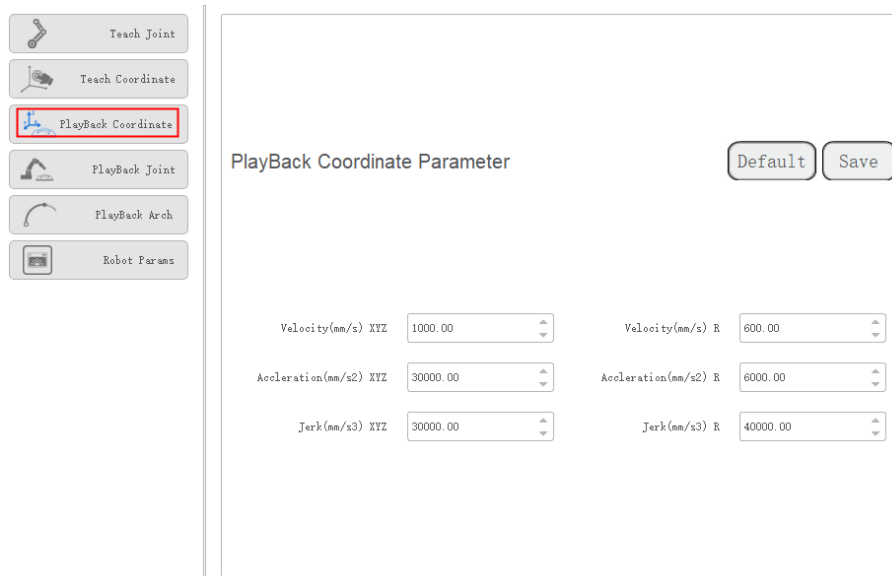

Figure 3.40 Playback parameters in the Cartesian coordinate system
- **Playback Coordinate Parameter:** Set the maximum velocity, acceleration and jerk in the Cartesian coordinate system when running robot programs. The playback parameters of a robot in the Cartesian coordinate system are as shown in Figure 3.40.